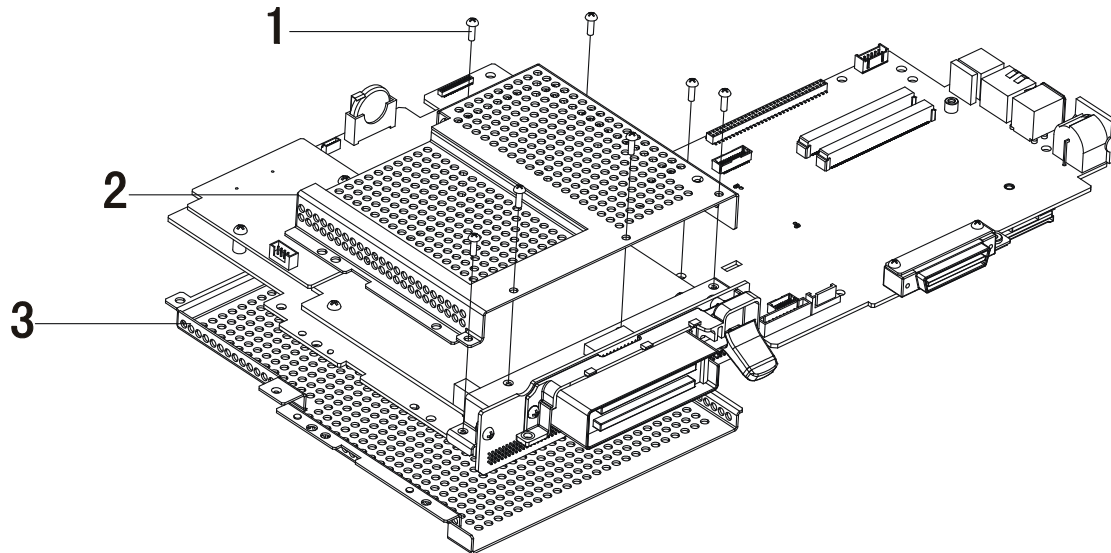

Figure 4-32 Removing Transducer Board (1)
- 2) As shown in Figure 4-32, remove seven screws fixing transmission board shield cover; remove main board top shield cover and main board bottom shield cover.